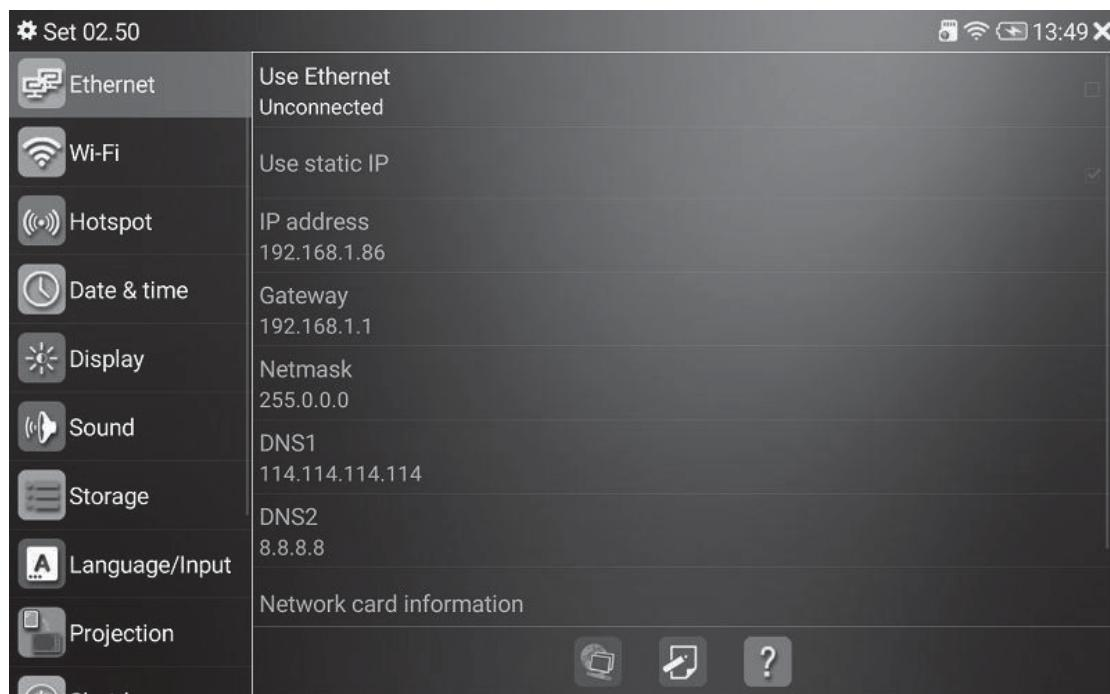

Figure 40
Touch 'Ethernet' icon on the left bar, select 'use Ethernet' column, connect a network cable to instrument LAN port, the instrument can be set to static IP or dynamic IP mode, if you want to use static IP, select 'Use static IP' column, then set the instrument IP address, gateway, subnet mask, primary DNS and alternate DNS items and you can add multi segment IP, as shown in Figure 40
2.Use dynamic IP address mode, the instrument can be changed to dynamic IP acquisition mode, current IP is 192.168.1.86, as shown in Figure40